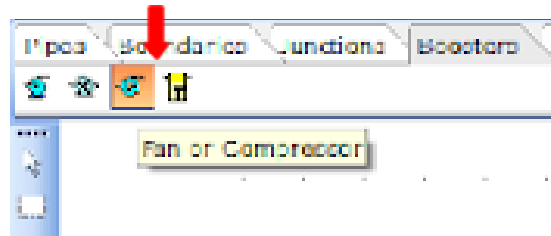

Figure 4: Fan or Compressor Icon.
4. This represents our pipe boundaries. We can now add our fluid motive device by selecting the desired booster from the Component Palette. In this design case, let us select the *Fan or Compressor* from the *Component Palette* (Figure 4).